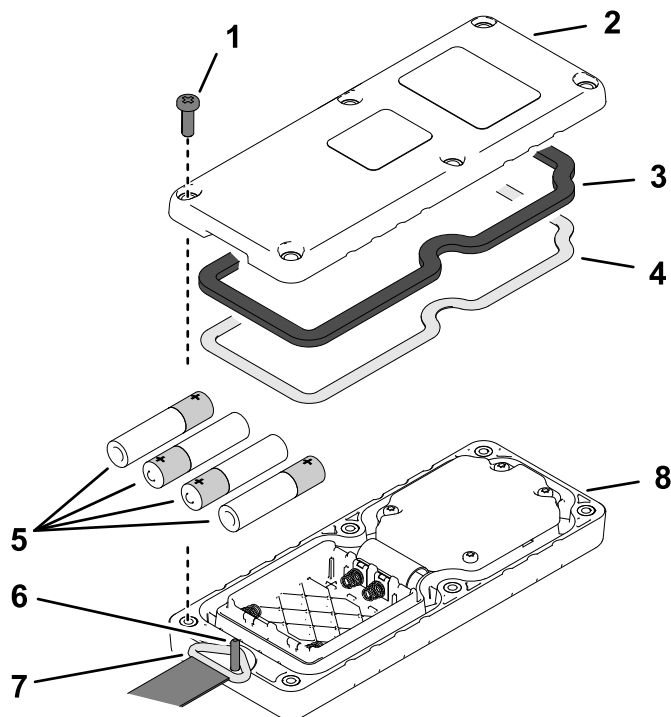

Figure 52
1. Remove the 6 screws securing the cover halves of the handheld remote together, and remove the back cover (Figure 52).
4. Ensure that the steel gasket and rubber seal are seated in the channel in the cover half and align the back cover to the front cover (Figure 52).
5. Align the lanyard ring over the lanyard pin (Figure 52).
6. Assemble the back cover to the and front cover with 6 screws (Figure 52).